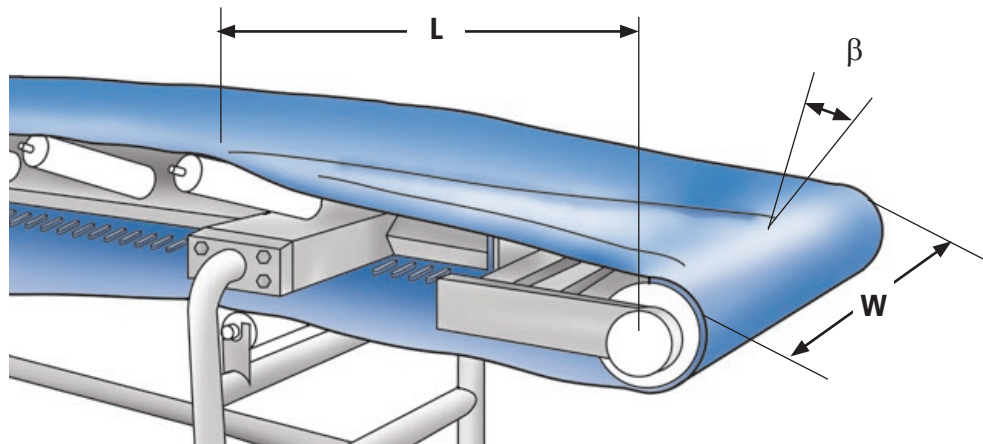

Figure 26
- Widths less than 20" (500 mm) will not easily trough more than 30° per side (see trough angle β in Figure 26).